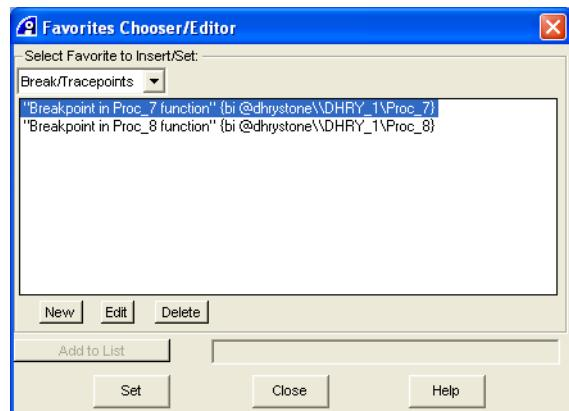

Figure 11-43 Favorites/Chooser Editor dialog box
4. Select **Debug → Breakpoints → Set Break/Tracepoint from List → Break/Tracepoint Favorites...** from the Code window main menu to display the Favorites/Chooser Editor dialog box. Figure 11-43 shows an example. Any previous breakpoints that have been added to the list are shown.